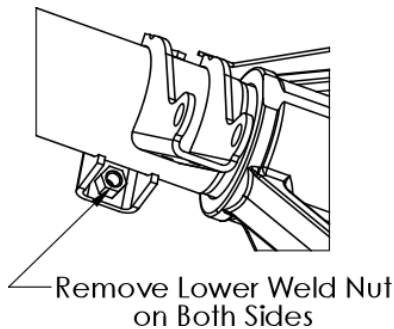

Figure 21. Remove Weld Nut
3. Remove the lower weld nut from both sway bar mounts. See Figure 21